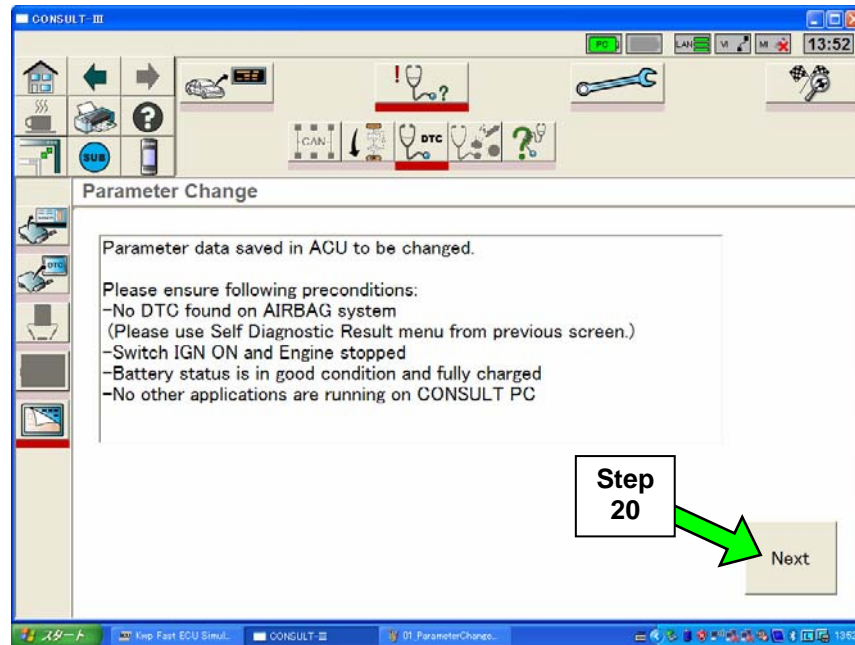

Figure 9
19. The screen in Figure 9 should display. Read the items on the screen and make sure each of the conditions have been met.